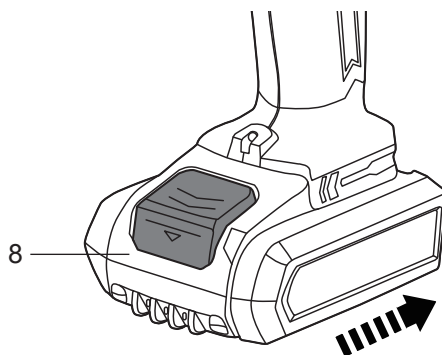

Fig. 5
- > To attach the battery to the product, align the battery pack (8) with the sliding slots of the battery docking port and slide the battery pack in. Ensure it clicks in place (Fig. 5).